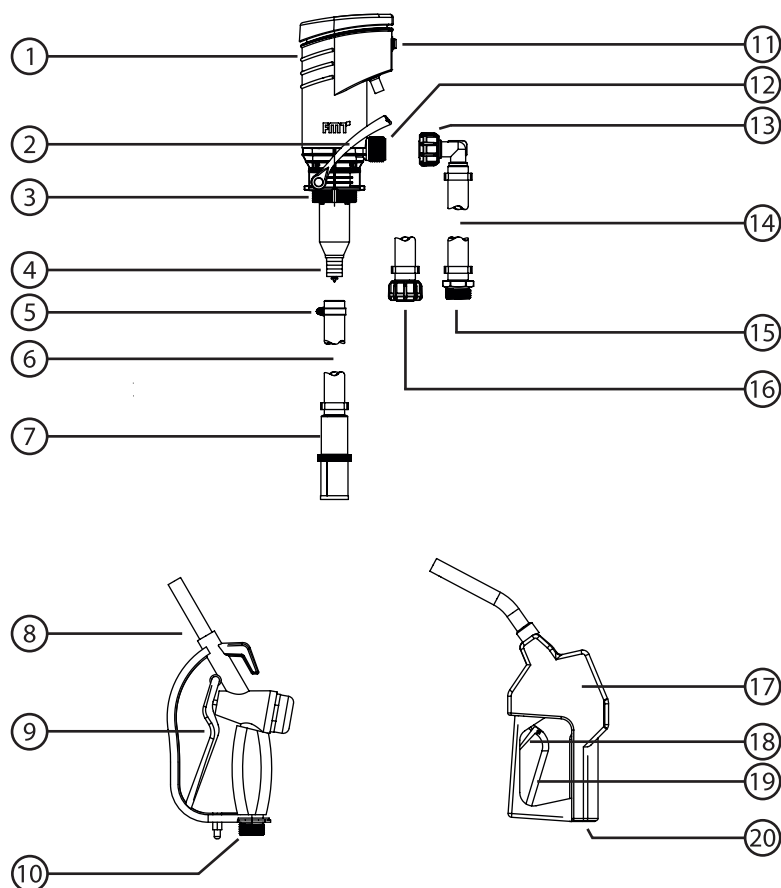

Fig. 6-1 Overview of PREMAxx DEF axial gear pump with accessories
**Preparing the pump for operation (see fig. 6-1):**
- Push the lever (10 or 19) or fix it by the lock (18) (if equipped with automatic nozzle valve). Hold the nozzle valve into the container to be filled.
- Manually pump fluid by means of the hand lever (item 2, refer to fig. 6-1) until fluid is pumped out of the nozzle valve (9 or 17).